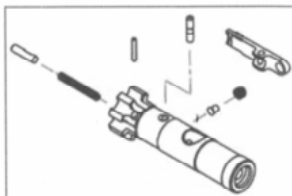

Fig. 60: Extractor spring and buffer
4. The Extractor Spring with the buffer inserted can be inserted into the hole of the extractor and while holding the extractor upside down, attach the bolt and insert the extractor pin into the hole (Fig. 60, 41 and 40). The pin must not protrude from either side and pressure might have to be applied to compress the extractor spring while completing this.